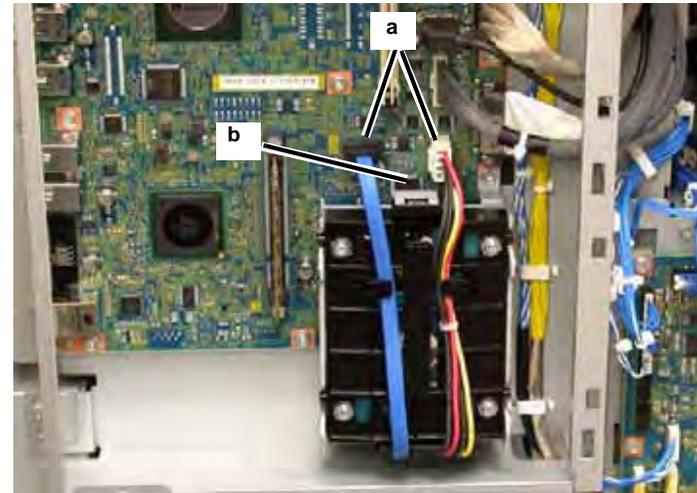

Figure 2 HDD
3. Remove the HDD (Figure 2).
- a. Disconnect the connectors (2).